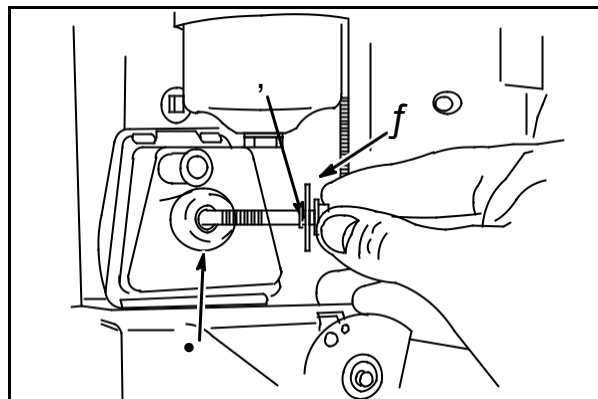

Fig. 9
Place large O-ring (1) on breather, **Fig. 9**.